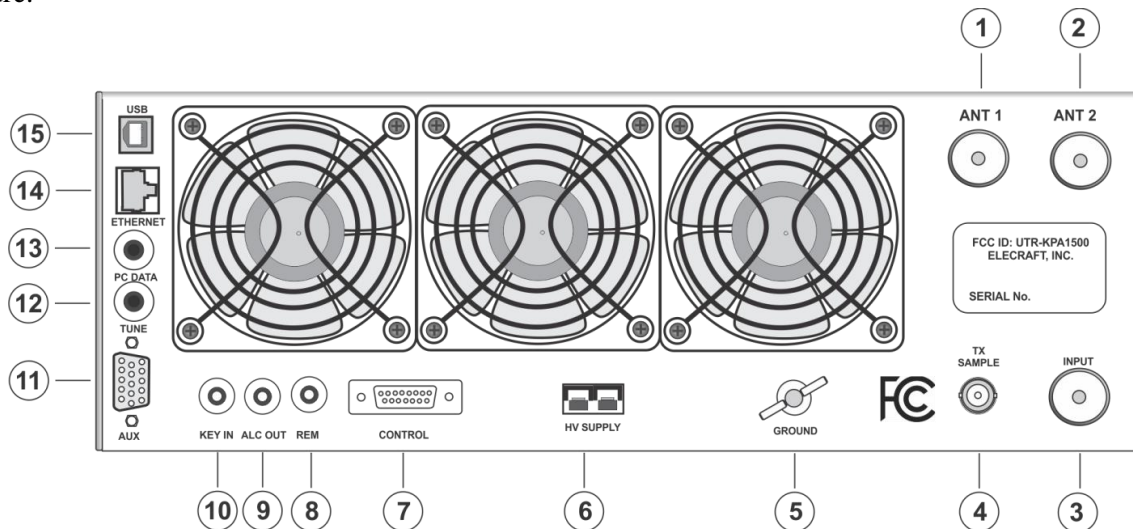
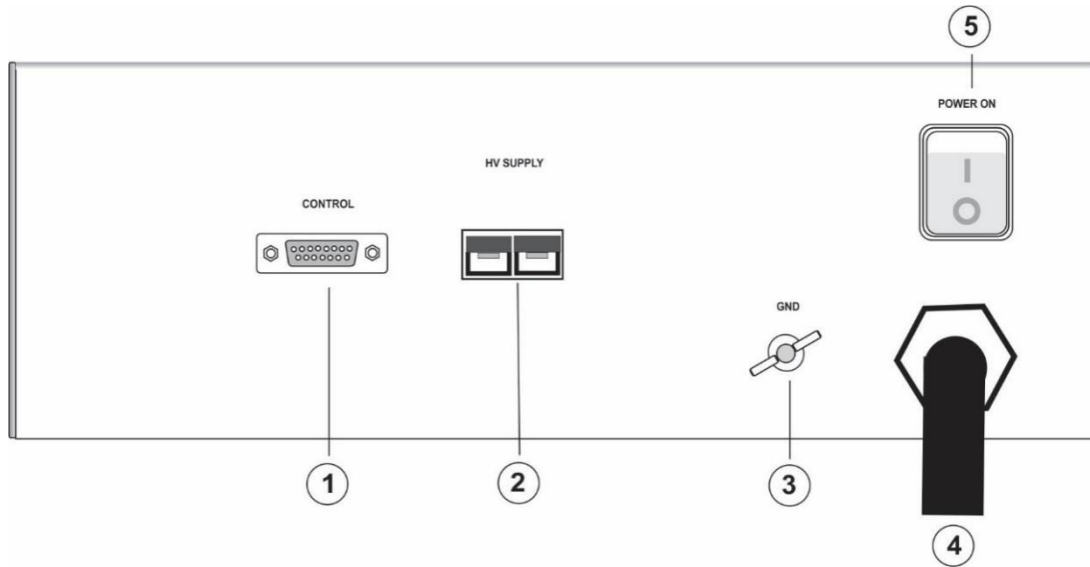

Figure 1. KPA1500 RF Deck Rear Panel.
Figure 2. KPA1500 Power Supply Deck Rear Panel.
The KPA1500 RF Deck rear panel is shown in Figure 1. The connectors and controls are described following the figure.
Connect the Power Supply to the RF Deck with the supplied 66" (167 cm) cable. Plug the Anderson PowerPole® connector into the HV Supply connector (6) on the RF Deck rear panel (Figure 1, page 7) and the corresponding connector on the Power Supply (2), Figure 2, page 8. Observe the polarity; match the colors on the plug with the connectors.
1. Connect your station ground to the GND terminal (5) (see Figure 1, page 7). A good station ground is important for safety and to minimize local radio frequency interference (RFI).
2. Attach the RF INPUT (3) to the output of your driving transceiver or transmitter using a 50 Ω coaxial cable with a PL-259 connector on the KPA1500 end.
3. Attach a suitable load with an SWR of less than 1.5:1 to the ANT 1 (1) or ANT 2 connector (2). A 50 Ω 1500 W dummy load is recommended for initial testing. Be sure to select the correct ANT connector using the front panel ANTENNA switch before transmitting.